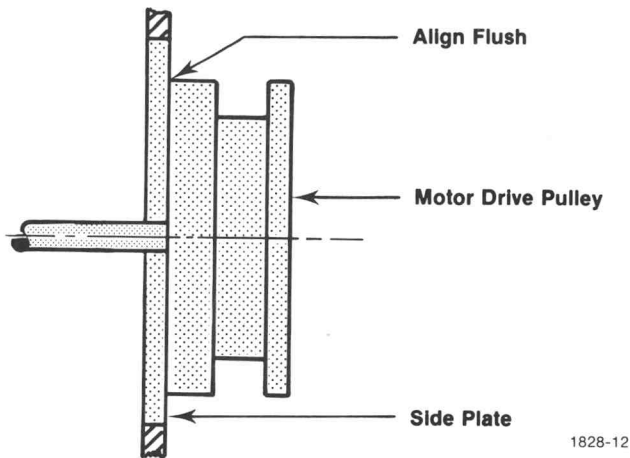

Fig. 3-12. Motor pulley position.
2. Fasten the X axis and Y axis drive pulleys to the stepping motor drive shafts as illustrated in Fig. 3-12. The X axis drive pulley (the smaller of the two), is mounted on the left stepping motor with the inner pulley flange flush with the line extending along the outer surface of the plotter chassis. The Y axis drive pulley (the larger of the two), is mounted on the right stepping motor in the same manner.